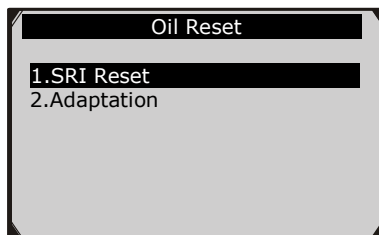
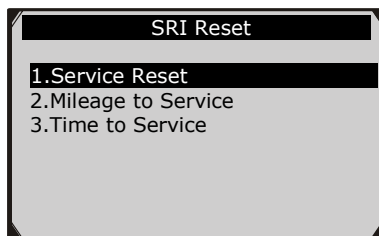
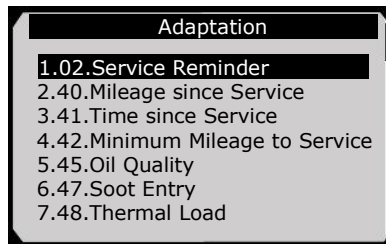

Figure 6.21
Figure 6.22
Figure 6.31
- 3) Select **SRI Reset** function from **Oil Reset** menu (Figure 6.21), and press **OK** button. Then the screen shows as Figure 6.22.
- A. From **SRI Reset** menu (Figure 6.22), select **Service Reset** function and press **OK** button. The screen will display the preset maintenance information of the vehicle. The information items vary with different vehicles.
- B.** From **SRI Reset** menu (Figure 6.22), select **Mileage to Service** function and press **OK** button. The screen will display the preset maintenance information of the vehicle. The information items vary with different vehicles. (Figure 6.27)
- C. From **SRI Reset** menu (Figure 6.22), select **Time to Service** function and press **OK** button. The screen will display the preset maintenance information of the vehicle. The information items vary with different vehicles. (Figure 6.29)
- 4) From **Oil Reset** menu (Figure 6.21) select **Adaptation** function and press **OK** button. Then the screen shows as Figure 6.31.